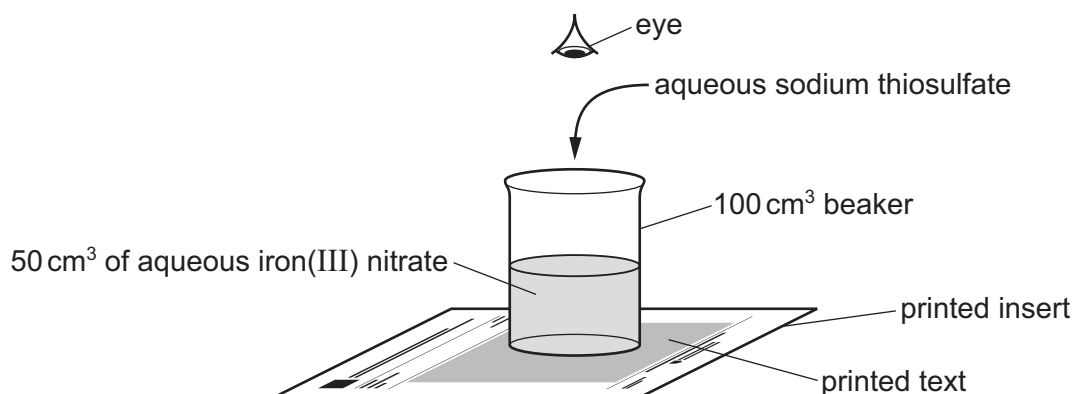

Fig. 1.1
You are going to do five experiments using the apparatus shown in Fig. 1.1.
- Stand the beaker on the printed text of the insert as shown in Fig. 1.1.